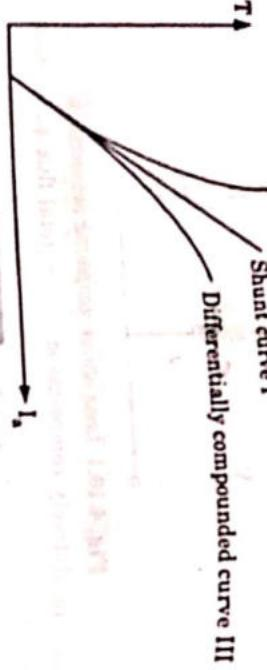

Fig. 4.10.3
- The increase in torque is shown by curve II in Fig. 4.10.3 in case of cumulatively compounded motor.
- ∴ Torque will be less as compared to shunt motor, as shown by curve III in Fig. 4.10.3.